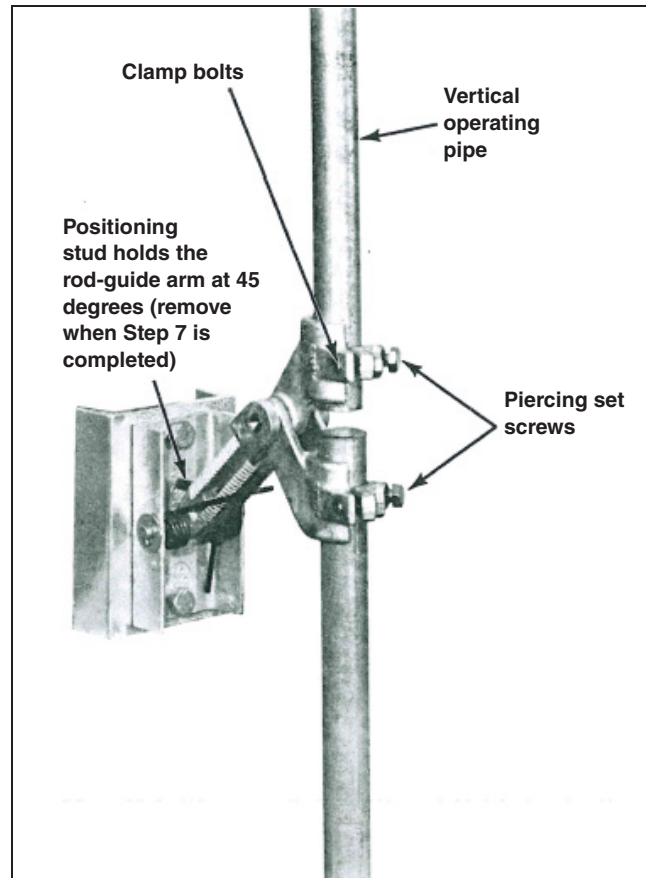

Figure 12. Rod guide.
STEP 6. Install the upper section of operating pipe between the switch drive lever and the adjustable rod guide, with the rod-guide arm pointing upward at a 45-degree angle. A positioning stud holds the rod-guide arm at 45 degrees. See Figure 12 on page 24.
Next, insert the upper end of this vertical pipe section in the lowest rod-guide coupling and, while holding the operating handle at a point approximately 20 degrees from the **Closed** position, tighten the rod guide clamp bolt. Do not tighten the associated piercing set screw at this time. See Figure 12.